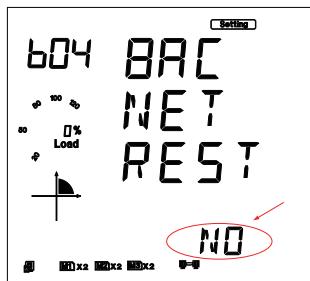

Fig 5-92
f). Set resetting mode in the fourth setting page. Select "RESET" to reset the module. Selecting "NO" will not reset the module. Selecting "RESET" will load the module with modify settings. Press the "V/A" key to go to the setting page and the parameter pointed out in Figure 5-92 will flash. Press the "P" or "E" key to select the configuration mode. Press the "V/A" key to accept.